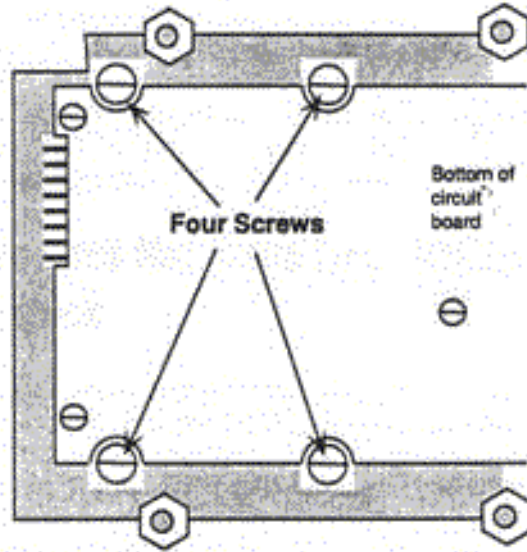

Figure 19
7. Rotate the drive such that the circuit board is facing up. As shown in Figure 19, use a small 1/8-inch slotted screwdriver to remove four gold-colored flat-head screws mounted beneath the circuit board.